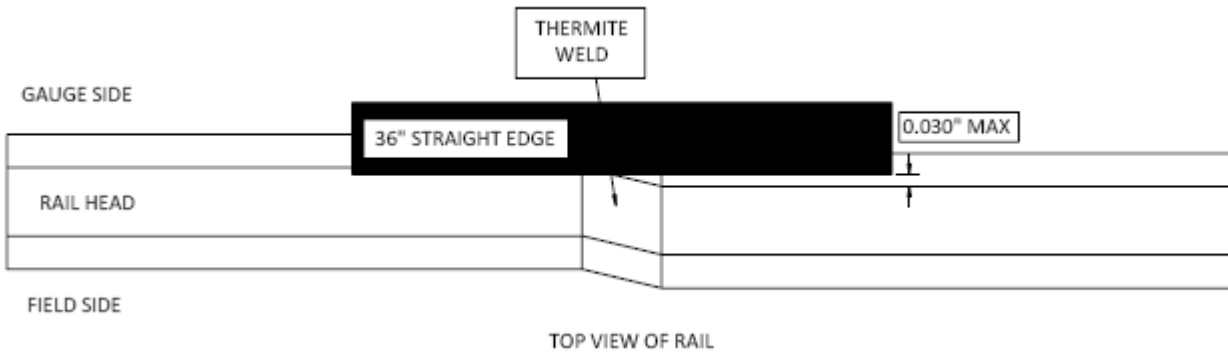

Fig. 30.4 - Horizontal Offset
- a. Horizontal offset should not exceed thirty thousandths (0.030) of an inch on the gauge side of the head. (Figure 30.4.)